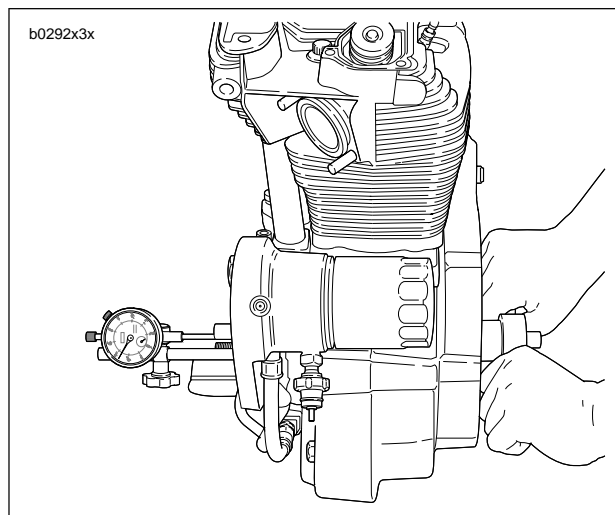

Figure 3-72. Checking Flywheel End Play
3. See Figure 3-72. Attach a dial indicator to gear side crankcase with indicator stem on end of gearshaft.